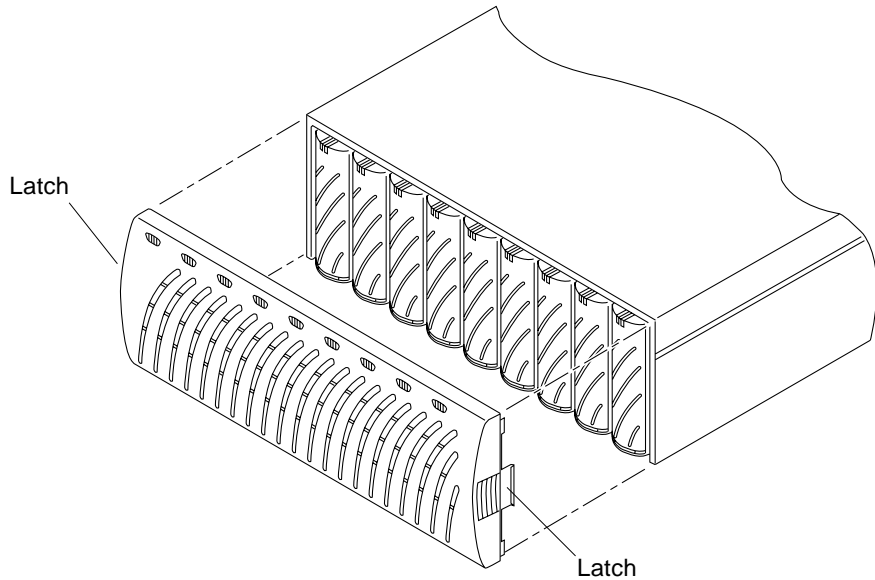

FIGURE 14-1 Removing the Front Panel
2. Remove the front panel by pressing in on the side latches (shown in FIGURE 14-1) and pulling the front panel forward.